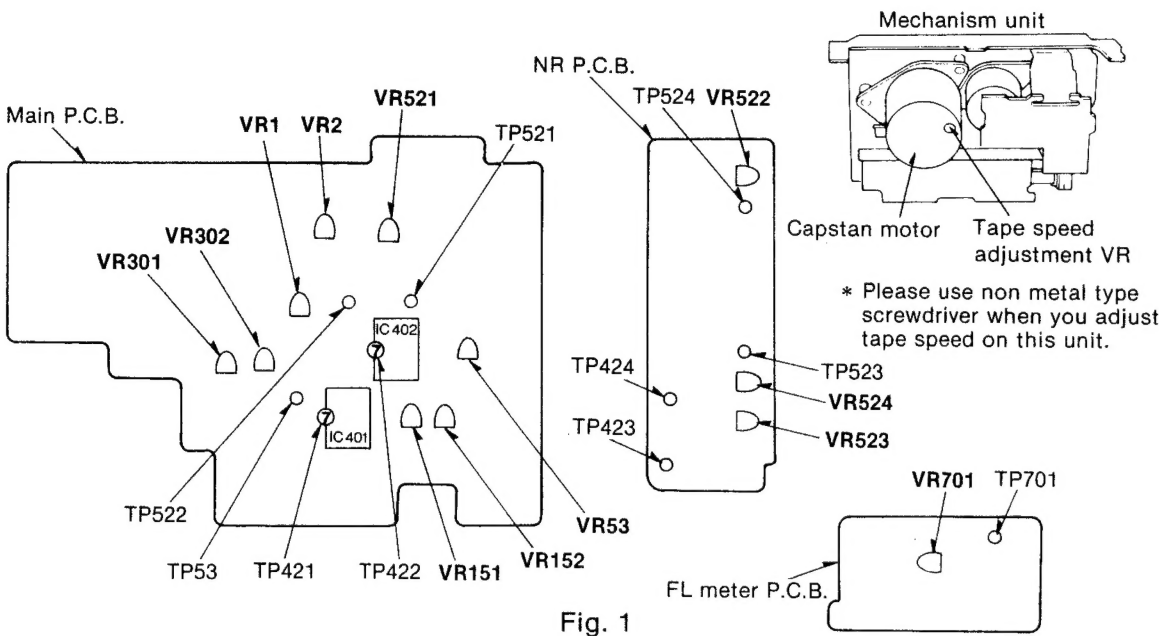

Fig. 1
6. If measured value is not within the standard value, adjust it by using the tape speed adjustment VR shown in Fig. 1.